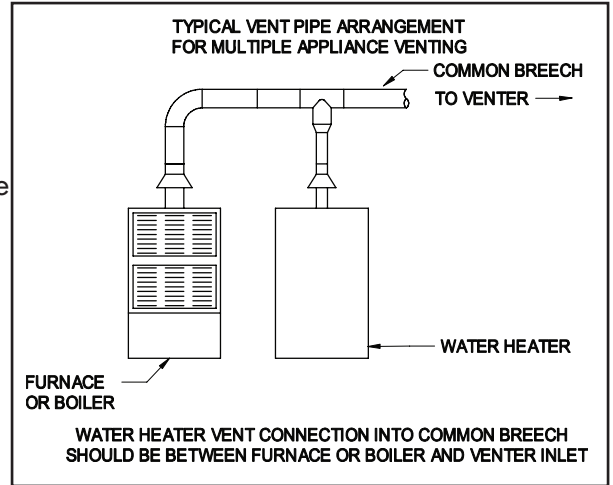

Figure 10
1. To properly adjust the venter air flow, loosen the inlet ring screws and open the choke plate approximately $\frac{1}{2}$ to $\frac{3}{4}$ open. (See Figure 10) Start the heating appliance following the manufacturer specified procedure, and set the thermostat to call for heat.
- A CK-20FV or CK-20FG control kit **MUST** be added to the system to properly control the venter during operation of the water heater. Refer to Figure 10 and Diagrams C and D for vent pipe arrangement and wiring information.